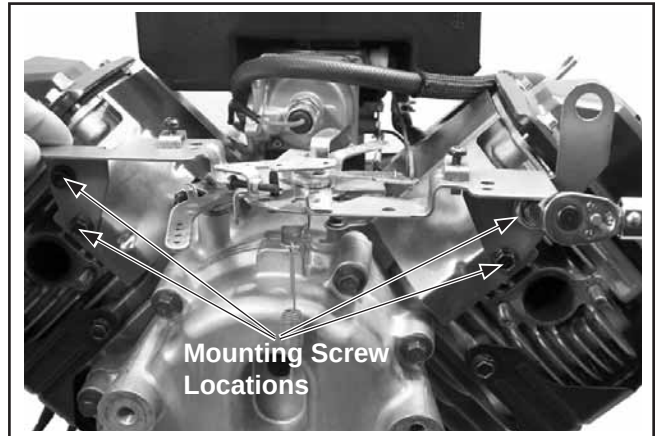

Figure 10-75. Throttle/Choke Control Bracket Mounting Detail.
2. Install the main control bracket to the cylinder heads using the four hex flange screws. The two lower screws should also secure the inner baffles. Torque the screws to **10.7 N·m (95 in. lb.)** into new holes, or **7.3 N·m (65 in. lb.)** into used holes. See Figure 10-75.